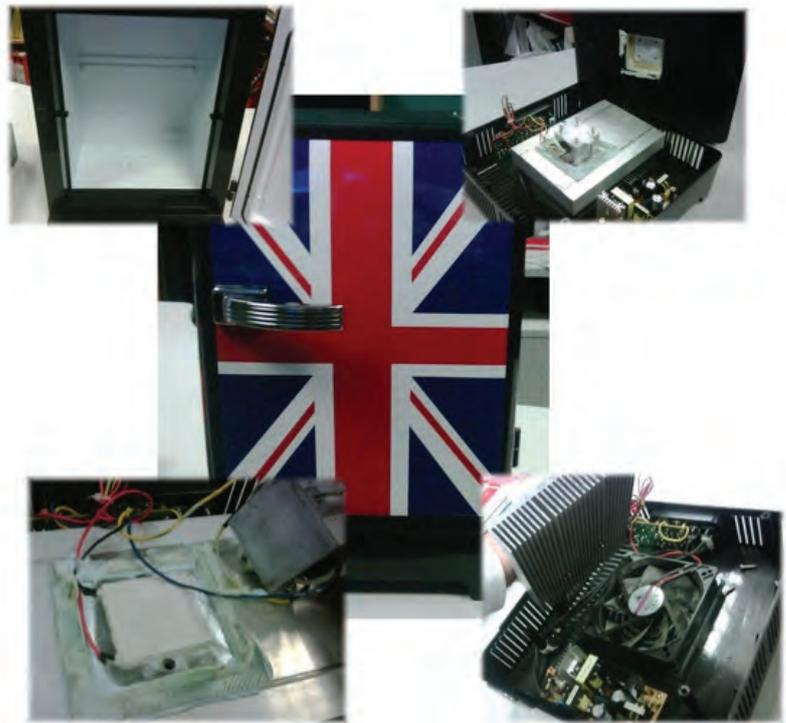

Figure 1. Beer Fridge Decomposed
**M** My boss, Roland, relocated from Germany to the UK a few years ago and has taken to life in England with alacrity. As a gift for the Mechanical Analysis product development department in Hampton Court, he bought a little fridge which had been busy ever since cooling the beer in it that everyone was too polite to drink. Not to cast dispersions on the purchasing power of my boss but the fridge probably wasn't the most expensive and after a while it stopped working. As any engineer would do, I grabbed a screwdriver and took the thing apart (Figure 1).